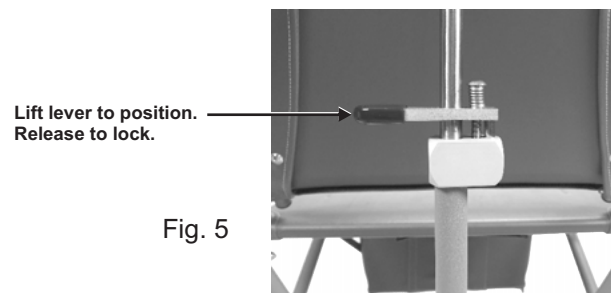

Fig. 5
2. **Backrest-** The backrest may be set in any position from upright to full supine. To change the position of the backrest, simply lift the chrome friction lever on the back side of the backrest, lower backrest, then release lever to lock. **NEVER LOWER THE BACKREST WHEN A PATIENT IS IN THE CHAIR WITHOUT COMPLETELY SUPPORTING THEIR WEIGHT FIRST.** To return the backrest to an upright position, lift backrest to desired position. Backrest will automatically lock in place. (Fig. 5)